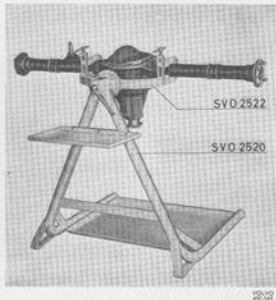

Fig. 4-144. Stand and fixture for rear axle
- 2620 Stand (Fig. 4-144)
- 2522 Fixture for rear axle (used together with stand 2520 for work on the final drive) (Fig. 4-144)